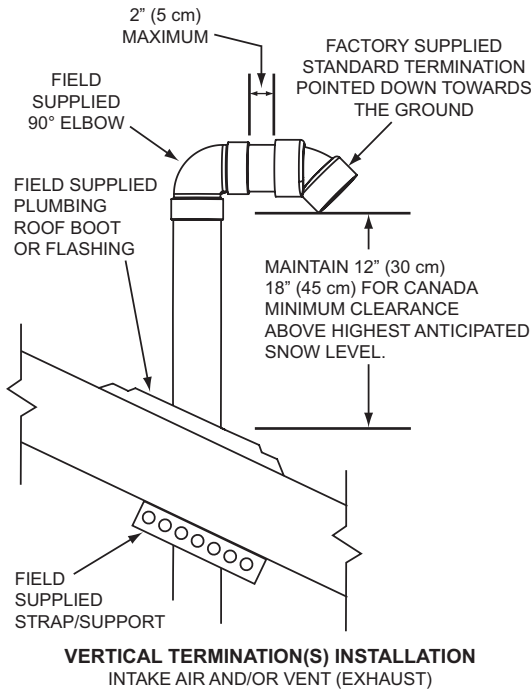

Figure 19
- If installing only the vent (exhaust) piping in a Power Vent configuration vertically through the roof; ensure that all exterior vertical clearance requirements shown in Figure 19 and Figure 20 on page 25 are being maintained. These clearances and those cited by local and national codes must be maintained.
The vent termination must be oriented facing downward as shown in Figure 19 and Figure 20.
The bottom edge of the vent termination must be a minimum of 12 inches (30 cm), 18 inches (45 cm) in Canada, above the average or expected snow level as shown in Figure 19.
The bottom edge of the intake air and vent terminations must be a minimum of 12 inches (30 cm), 18 inches (45 cm) in Canada, above the average or expected snow level as shown in Figure 19 and Figure 21.
- Suspend the pipe(s) through center of hole using field supplied metal strapping or equivalent support materials as shown in Figure 19.
- Slide a roof boot or equivalent flashing over the pipe and secure roof boot or equivalent flashing to roof (see Figure 19) and seal around the flashing.
- Install the factory supplied intake air and/or vent termination(s) using field supplied pipe and one field supplied 90° elbow as shown in Figure 19. The short section of pipe that connects between the field supplied 90° elbow and the factory supplied termination must not be excessive in length. The exposed portion of this pipe shall be no more than 2 inches (5 cm), see Figure 19.
**VERTICAL TERMINATION(S) FLAT ROOF CLEARANCE